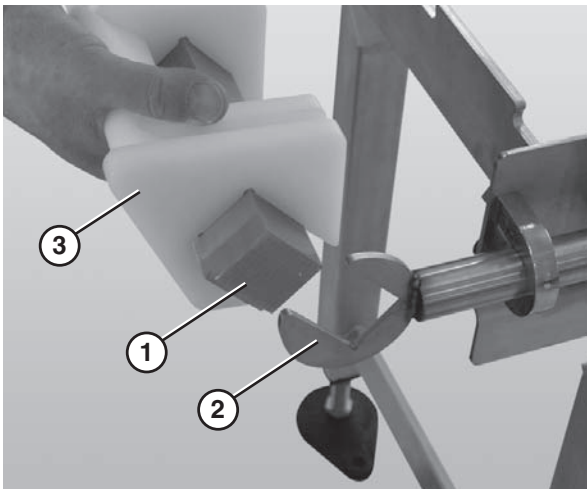

Figure 73
- Slide the nose bar drive or transfer post (**Figure 73, item 1**) out of the nose bar drive weldment or idler hands (**Figure 73, item 2**).
- Remove the nose bar tracking pucks (**Figure 73, item 3**), if applicable.